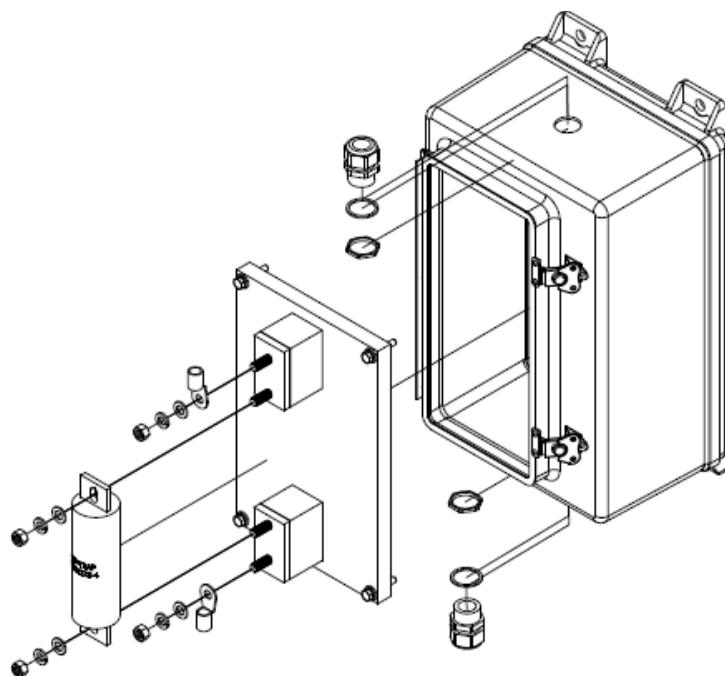

Figure 5-5: Auxiliary Fuse Box
3. Use a 9/16" socket to remove the nuts and washers holding the fuse and cables to the 3/8-16 studs as shown in Figure 5-5.